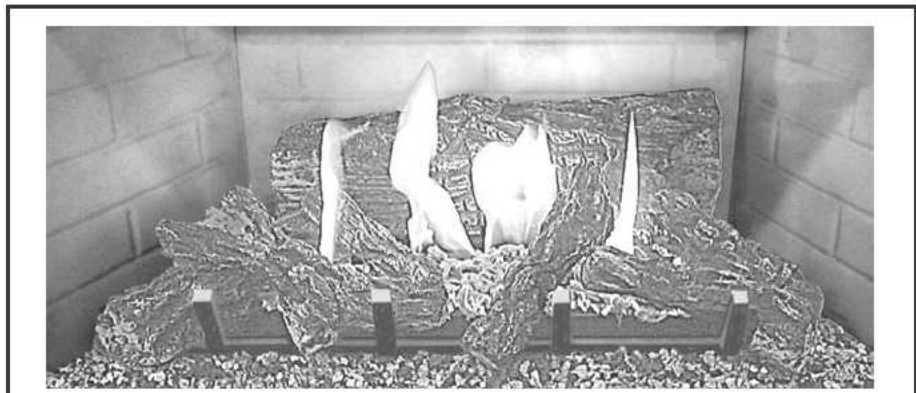

Figure 10
1. Refer to *Figures 10, 11 and 12* for proper flame appearance. To adjust the flame, rotate the adjustment rod toward the back or toward the front of the fireplace (rod located in the lower control area). Position the air shutter to the factory setting as shown in the table in *Figure 13*.